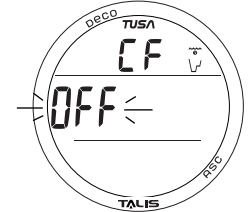

Fig. 41 - SET CONSERVATIVE FACTOR
**SET CONSERVATIVE FACTOR**, information includes (Fig. 41):